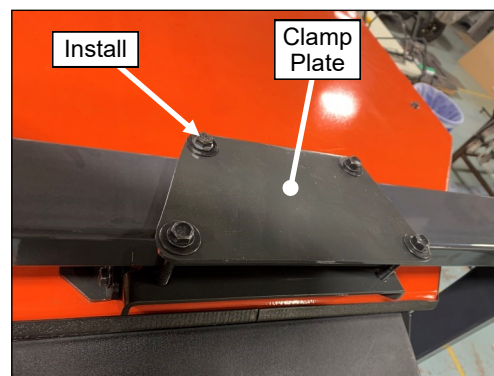

Fig. 5.13 (Install Upper ROPS Clamp Plate)
5.13 See fig. 5.13. Install the upper ROPS clamp plate to the top side of the ROPS and secure with the following hardware. Bolts can be tightened at this time. Hand tighten only. Do not over-tighten or plate will deform.